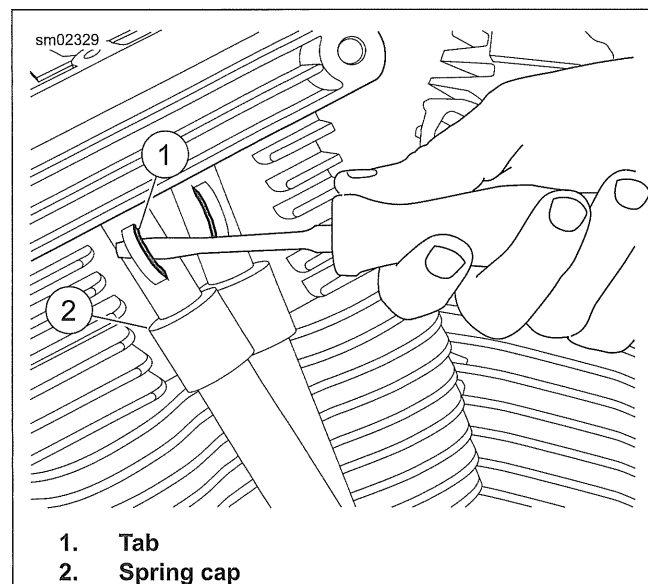
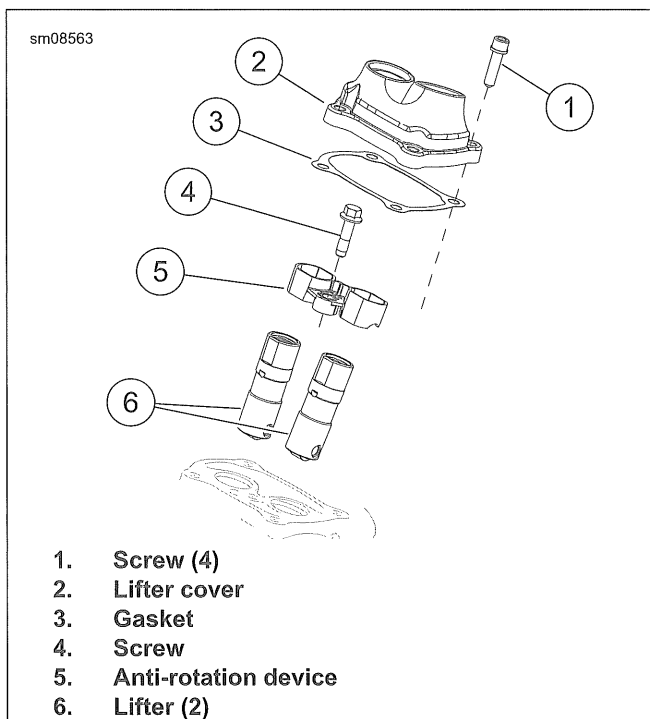

Figure 4-23. Removing Spring Cap Retainer
Figure 4-24. Lifter Cover
- a. See Figure 4-23. Alternately, insert the blade of a screwdriver in tab (1) of spring cap retainer.
- b. While pushing down on spring cap (2), rotate bottom of retainer outboard.
5. See Figure 4-24. Remove lifter covers.
- a. Remove four screws (1).
- b. Remove the lifter cover (2) and gasket (3). Discard gasket.
- a. Remove screw (4) securing anti-rotation device (5).
- c. Remove the lifters (6) and place in clean plastic bags to prevent contamination.
- d. See Figure 4-24. Install anti-rotation device.
- e. Install screw (4). Tighten.